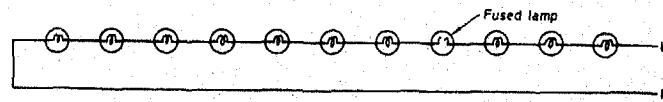

Fig.10.5 None of the bulb glows as a fused lamp stops current flow.
- (ii) Either all the lamps will glow or none of them will glow in case any one of them is fused or goes out of order. You may see series lamp connection in the festive lights on various occasions (See Fig. 10.5).